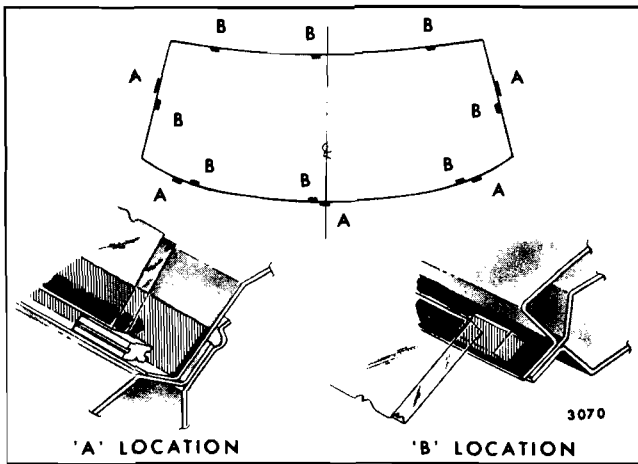

Fig. 4-8—Glass Spacer Installation
4. Using black weatherstrip adhesive or adhesive caulking material, cement flat rubber spacers #4459429 or equivalent to window opening pinchweld flanges. As shown in Figure 4-8, location "B", spacers should be positioned to provide equal support around entire perimeter of glass.
5. Using black weatherstrip adhesive or adhesive caulking material, cement rectangular spacers #4871330 (.34 x .44 x 1.0) or equivalent to window opening rabbet to support lower edge of glass and restrict lateral movement. Figure 4-8, location "A", illustrates rectangular spacers positioned in a typical windshield installation. On smaller glasses, only 2 rectangular support spacers are required across the bottom.